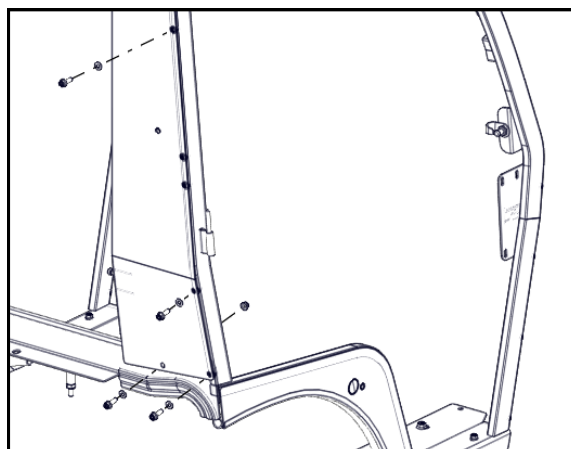

Fig. 9.1 (Right Rear Leg Installation)
**9.1** With assistance, install the right rear leg oriented as shown. See fig. 9.1. Fasten to Lower Rear Panel and right sideframe.